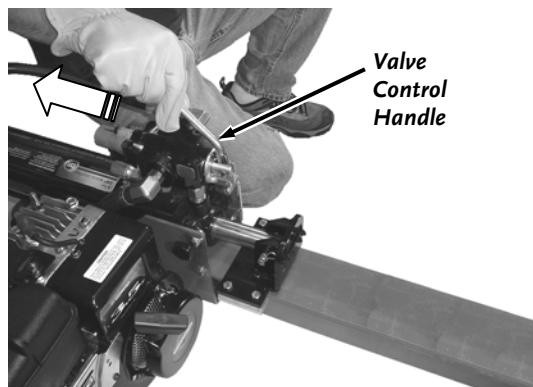

Figure 31
7. Once the Push Plate reaches its full forward travel, pull back on the Valve Control Handle to the full retract position (Figure 31). The ram of the cylinder will automatically retract into the cylinder.